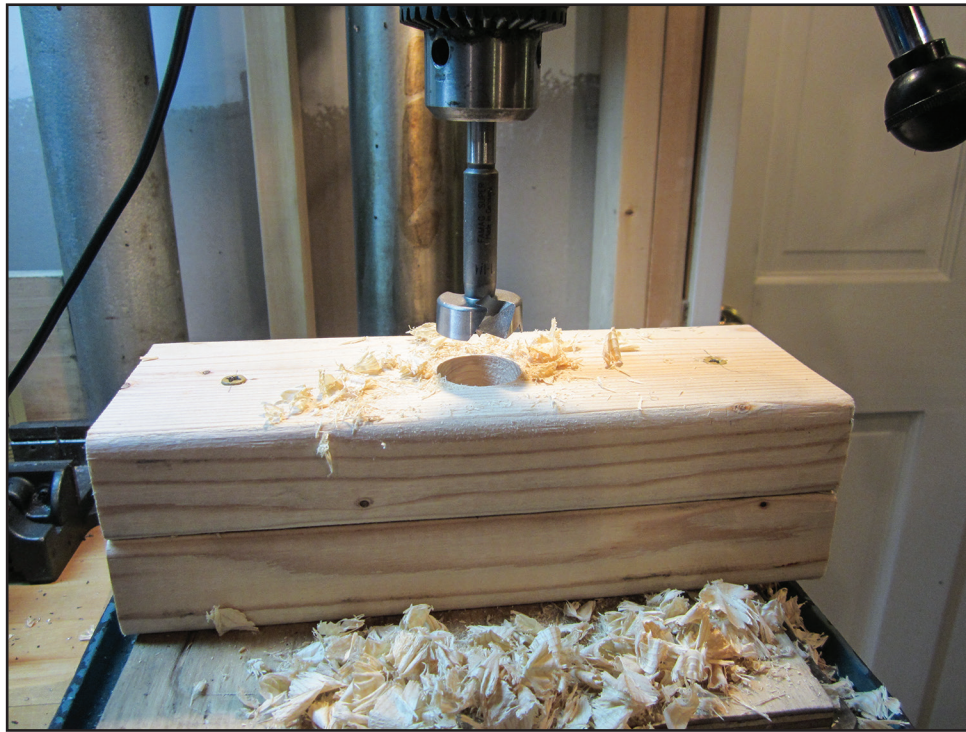

Fig. 12: Drilling both distributor holes with a Forstner bit
5. Perhaps the only critical aspect of the design is to get good alignment between the distributor and the motor. If the alignment is good, the motor and distributor will spin very smoothly with remarkably little noise or vibration. If the alignment is poor, there will be increased noise and vibration. One helpful step for good alignment is to drill both holes for the distributor with the same drilling operation, as shown in Figure 12. The two pieces of wood are temporarily screwed together and trimmed on